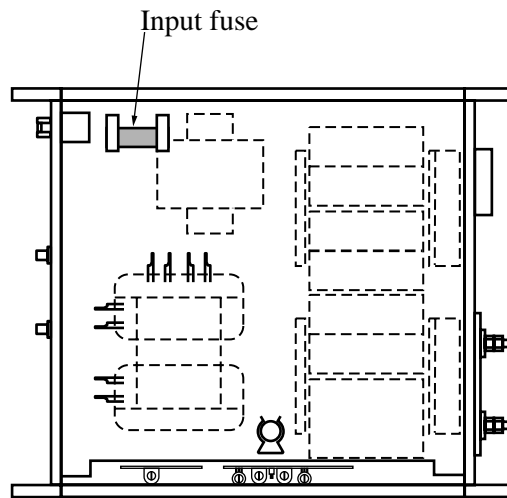

Fig. 6-13 Replacing an input fuse for the TYPE III model
2. Remove the input fuse from the fuse holder and replace with a new fuse. See Fig. 6-13.